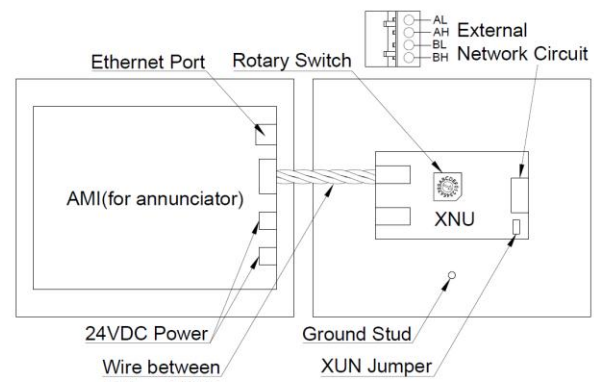
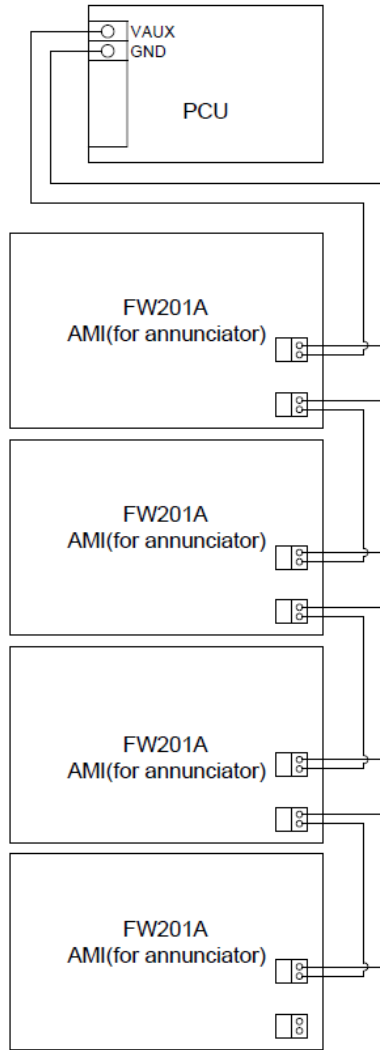

Figure 3. Connection
Figure 4. 24VDC Connection
1. The 24VDC power comes from the auxiliary output(power limited) of FW106 FACP. Two connectors are available(one for input and the other for output) as shown in figure 3 and figure 4.